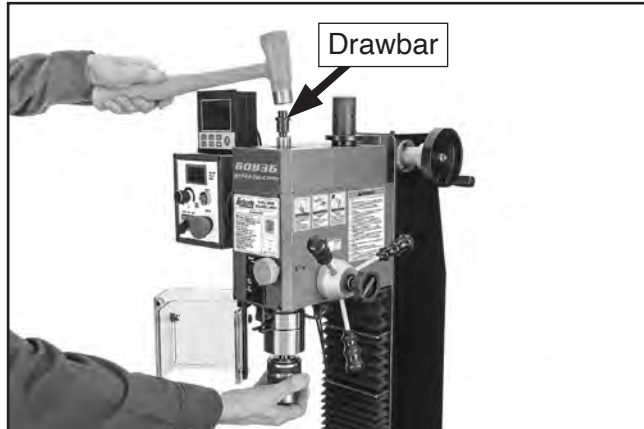

Figure 42. Example of using hammer to loosen drawbar.
4. Tap top of drawbar with brass-head or dead-blow hammer to unseat taper, as shown in **Figure 42**.